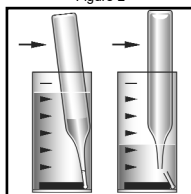

Figure 3
For CHEMetrics photometers, follow the **Setup and Measurement Procedures** in the operator's manual. For spectrophotometers, set the wavelength to 690 nm. A sealed ZERO ampoule is supplied in this kit for zeroing when the sample is colorless and not turbid. For improved accuracy with colored or turbid samples, Sample Zeroing Accessory Pack, Cat. # A-0503 is recommended. Using the sample cup, snap the tip of the A-0503 ampoule in the sample (see figure 3 below). Invert the ampoule to mix. Dry the ampoule and use it in place of the supplied ZERO ampoule to zero the instrument.
3. Place the Vacu-vial ampoule, tip first, into the sample cup. Snap the tip. The ampoule will fill leaving a bubble for mixing (fig. 3).